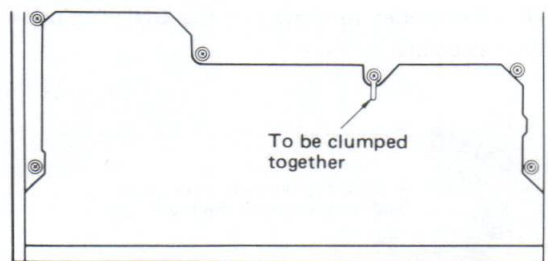

Fig. 4
- 3) Unscrew the four fixing screws D for the metal C located on top of the shaft. (Refer to Fig. 4.)
- 2) Unscrew the six screws (yellow bind head tapping screw, 4 x 10) and washers located inside the cabinet. (Refer to Fig. 4.)